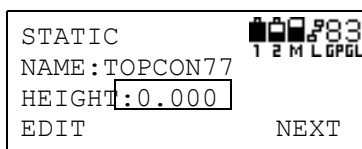

Figure 3-15. Static Observation Screen – Navigate to Interval Selection
1. From the main menu, navigate to STATIC and press ENT to activate the Static observation screen. Press the **up/down cursor key** (Figure 3-15), moving the cursor to INTVL.